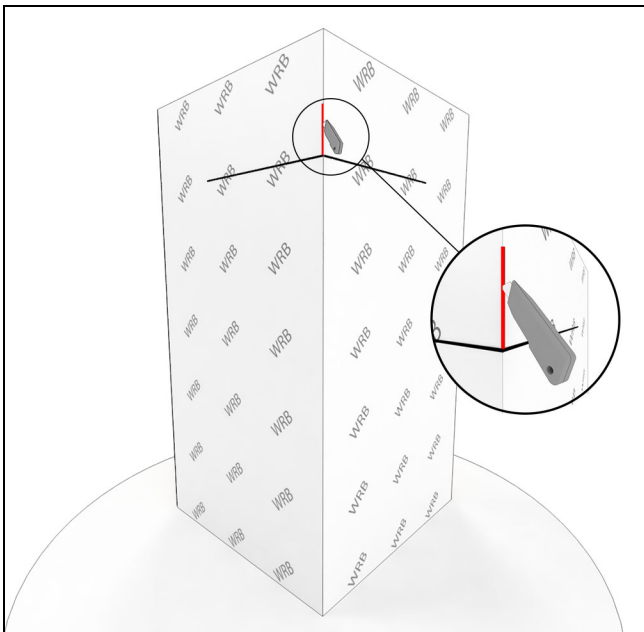

Figure 4
3. Make one 6" (152) vertical cut on the corner. See Figure 4.